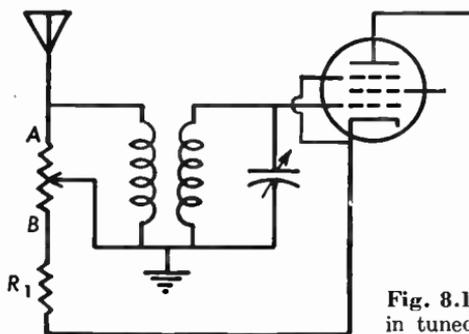

Fig. 8.15 Volume control, common in tuned radio frequency receivers.
8.15 The antenna-bias type volume control of Figure 8.15 has a value of 10,000 ohms and is variable only from A to B. The 6K7 tube is operated under the following conditions: $E_p = 90$ volts, $E_s = 90$ volts, $I_p = 5.4$ milliamperes, $I_s = 1.3$ milliamperes, and $E_g = -3$ volts. Calculate the value of the variable range of the tapped volume control. If this type volume control were not available for replacement, what would be a fair value for R_1 and R_{ob} employing two separate parts.